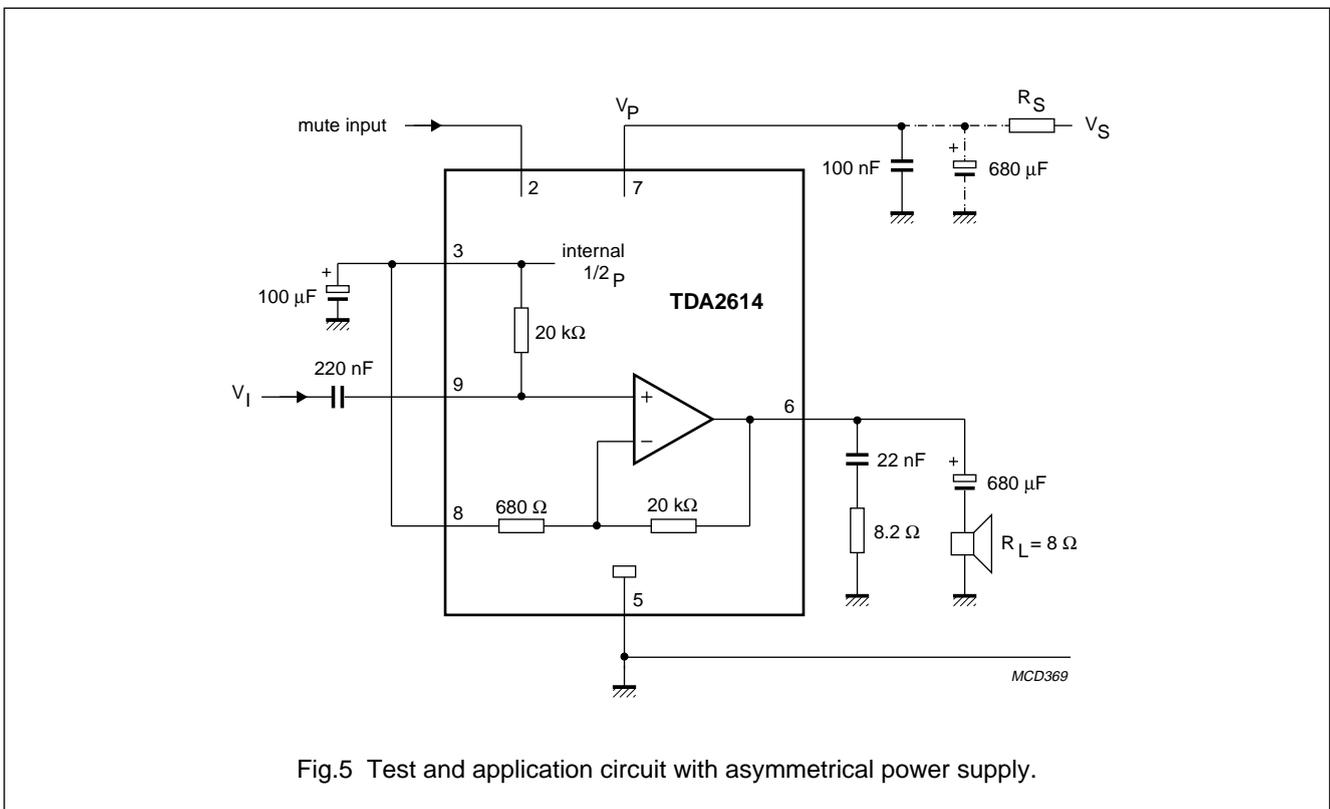

Fig.5 Test and application circuit with asymmetrical power supply.
- $V_P = 24\text{ V}$ ;  $R_L = 8\ \Omega$ ;  $T_{amb} = 25\ ^\circ\text{C}$ ;  $f = 1\text{ kHz}$ ; asymmetrical power supply  $I_{MUTE} < 30\ \mu\text{A}$ . See Fig.5
- $V_P = 8\text{ V}$ ;  $R_L = 8\ \Omega$ ;  $T_{amb} = 25\ ^\circ\text{C}$ ;  $f = 1\text{ kHz}$ ; asymmetrical power supply. See Fig.5